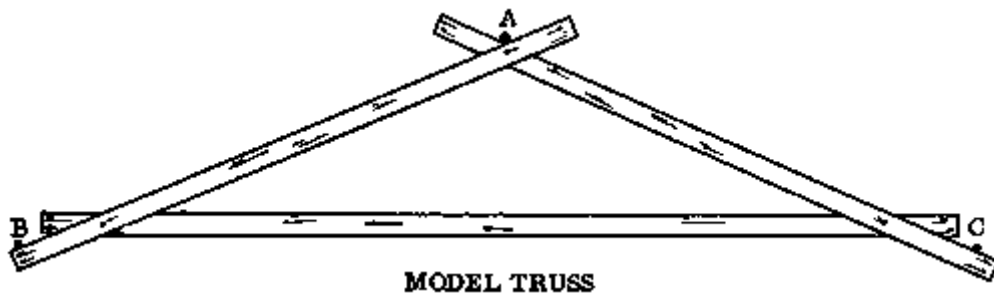

Fig. 3
- Next construct a lightweight, temporary model truss. Hold it in position on top of the roof (Fig. 3). Adjust it until points A, B, and C touch the outer surface of the truss.